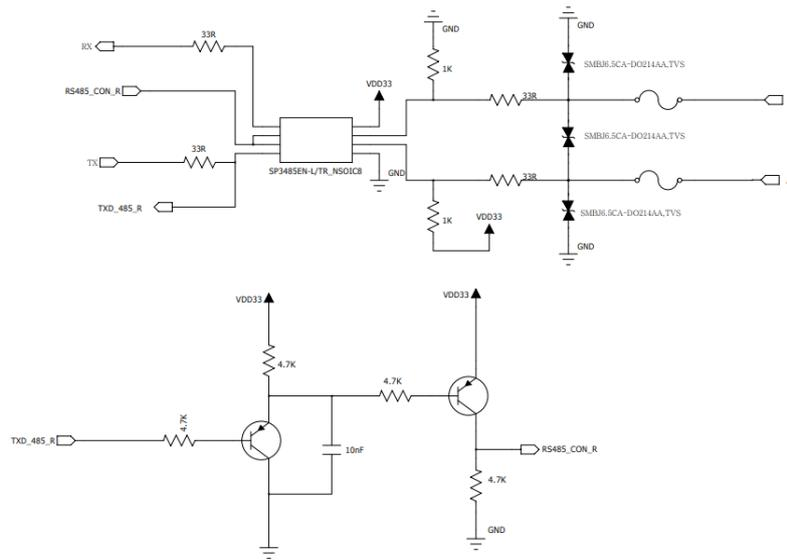

Figure 6-3 Reference circuit of F8L10C connected to industrial computer RS485
2. The industrial computer is used as the host computer: F8L10C is connected with the industrial computer through the RS485 bus and needs to use the RS485 chip conversion (such as SP3485), as shown in Figure 6-3.